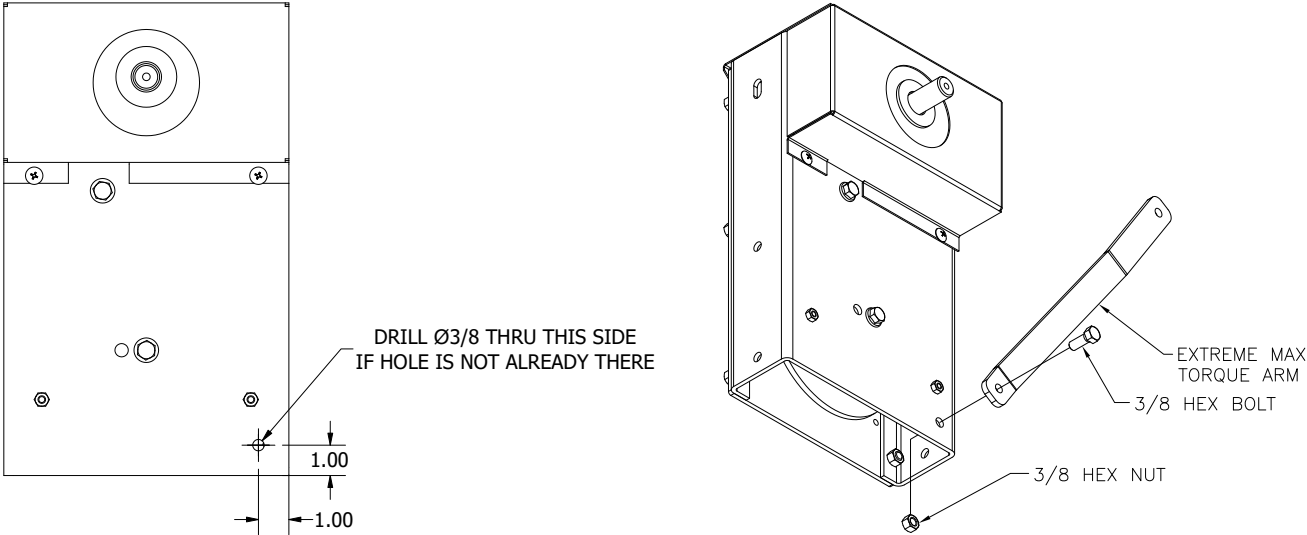

Figure 3-13
1. Refer to Figure 3-13 and to manufacturer's installation instructions provided with the drive. A 3/8" hole may need to be drilled in the front of the winch to accommodate the mounting of the Extreme Max torque arm.